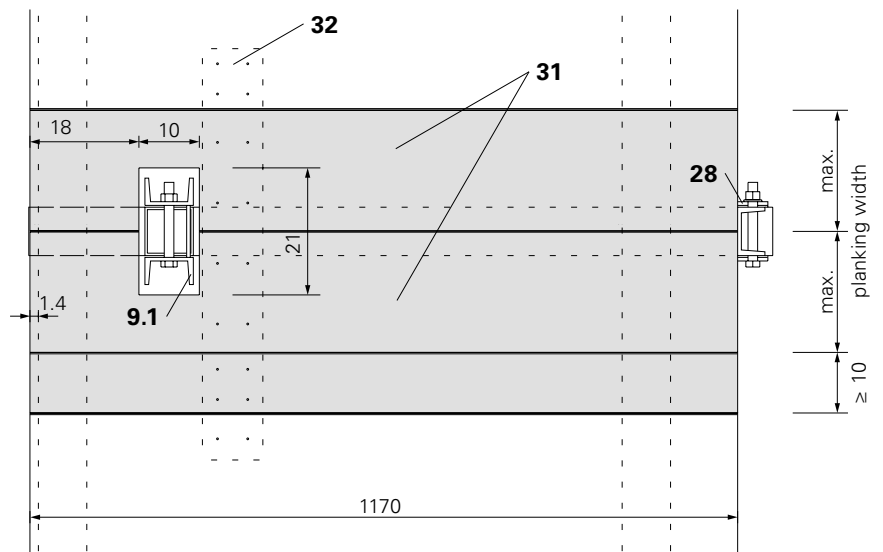

Fig. A2.07
- The planking is divided along the middle of the Platform Beam CB (28).
- The planking (31) to the side of the Platform Post CB 225 (30) is complete!
- The planking width in the compensation area is ≥ 100 mm. (Fig. A2.07)